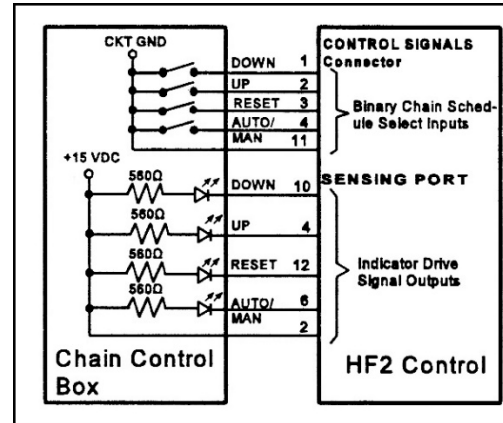

Figure 4-9. Remote Chain Control Box Input / Output Signals
- 1 When an external chain control box is connected to the Control Signals Connector in place of a PLC, chained weld schedules can be implemented semi-automatically with an external chain control box (see Figure 4-9).
Note: If (Manual) is selected on pin 4, the chain control box will override the Control chain schedule on/off function and weld schedules can be selected manually from the chain control box (see Figure 4-9).